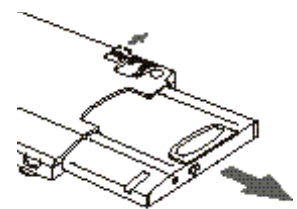

Figure 5-9 Removing a Device from the Detachable Bay
4. Slide the Bay Device Lock at the left rear corner of the Detachable Bay out from the unit. (See Figure 5-9)
5. Slide the device in the Multi-function bay out until the device is clear of the compartment. This will require some force. Use the finger ridges on the bottom of the device. (See Figure 5-9.)
6. Slide the Bay Device Lock at the left rear corner of the Detachable Bay out from the unit. (See Figure 5-9.)
3. Slide the Bay Device Lock at the left rear corner of the Detachable Bay out from the unit. (See Figure 5-9.)
4. Slide the device in the Multi-function bay out until the device is clear of the compartment. This will require some force. Use the finger ridges on the bottom of the device. (See Figure 5-9.)